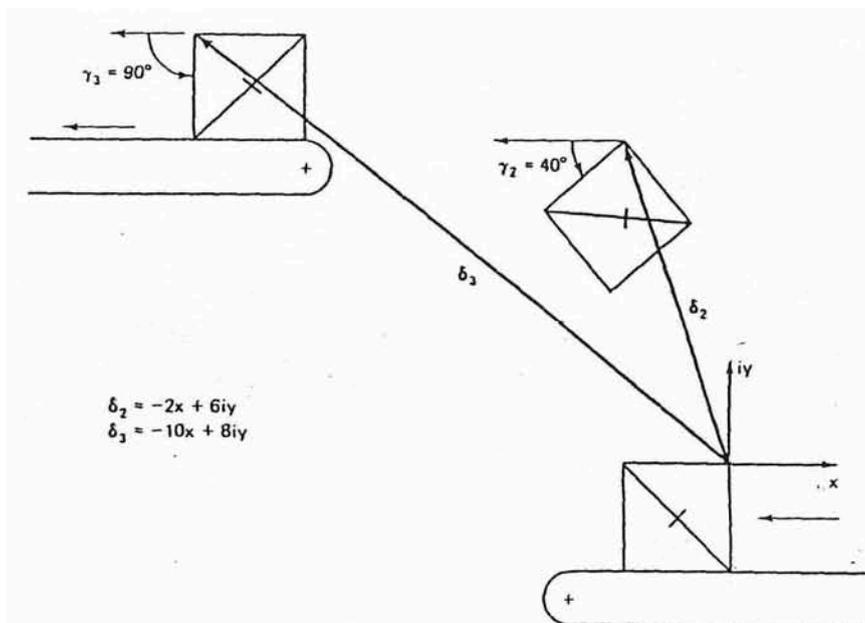

Fig. 4
4. As part of an automation process, a four-bar linkage must be designed to remove boxes from one conveyor belt and deposit them on an upper conveyor belt as shown in Fig.4 (three prescribed positions). Both fixed and moving pivots must be located between the upper and lower conveyor belts. Design an acceptable four-bar by the graphical method. (25%).